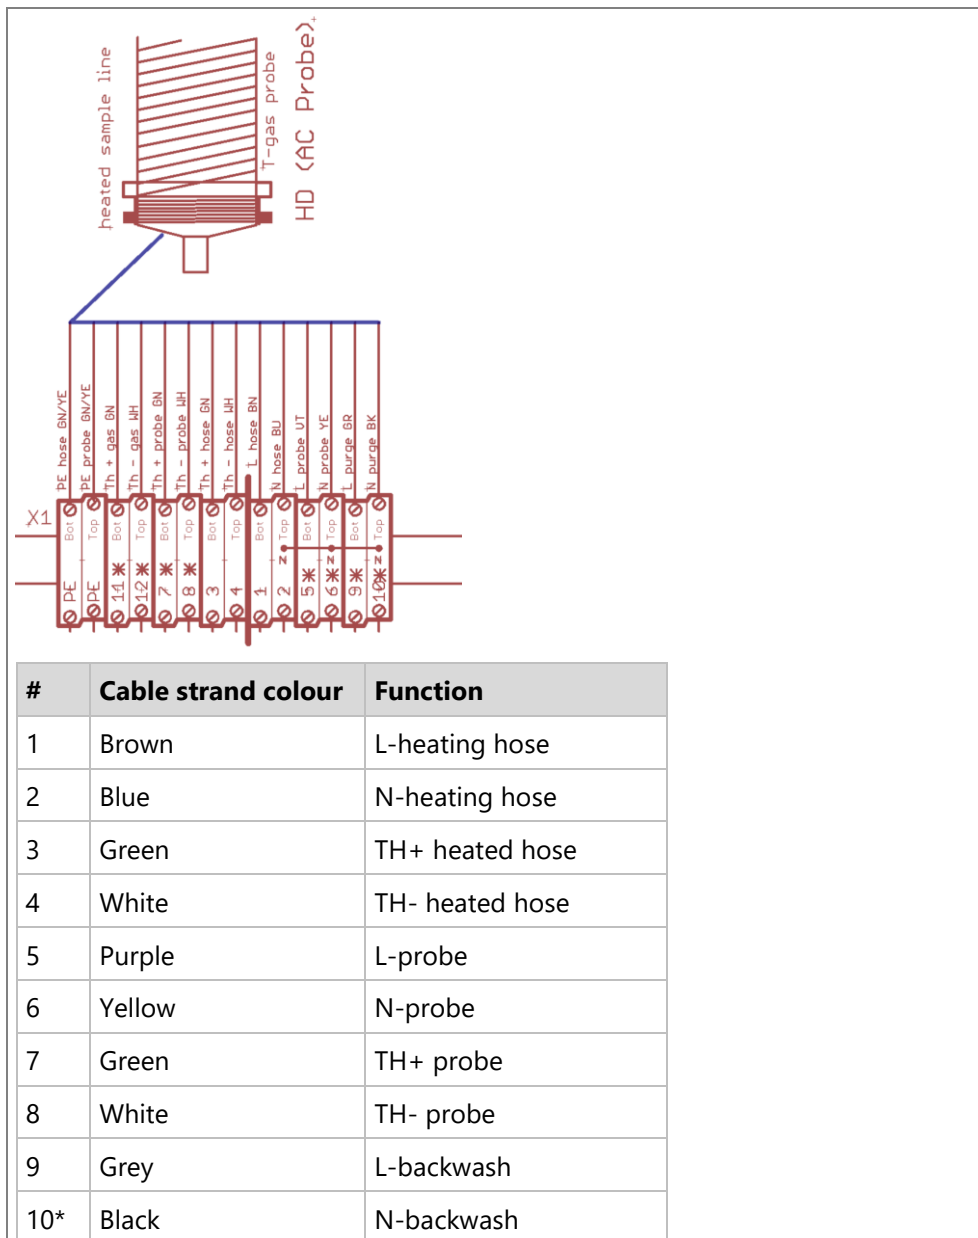

Fig. 3
▶ Wire the wiring harness to the X1 terminal Fig. 3).
▶ Connect the PTFE hose to the gas inlet (Fig.3).